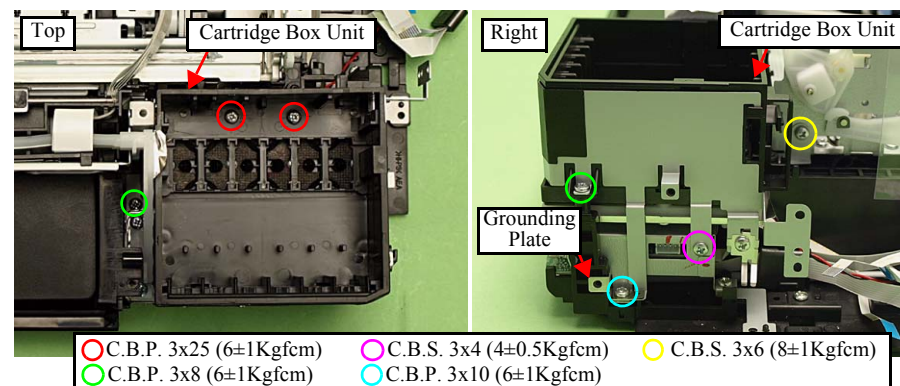

Figure 4-78. Removing the Cartridge Box Unit
- Make sure to attach the grounding plate to the place shown in Fig. 4-78, and secure it with the screw.